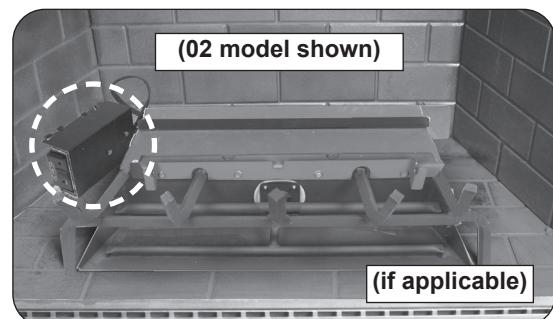
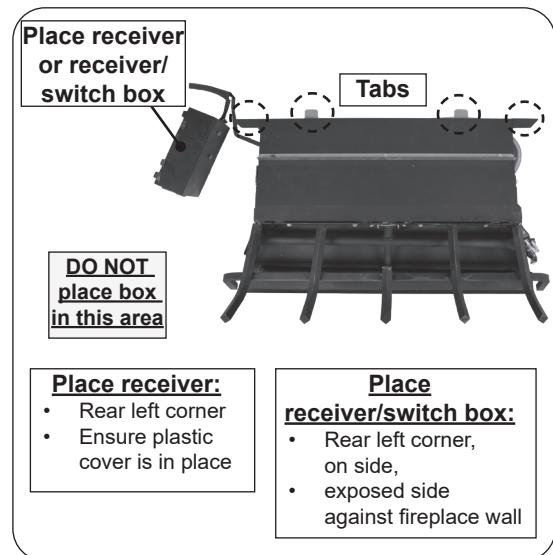

Fig. 15-2 Place receiver / switch box
Fig. 15-3 Proper receiver/box placement
3. Place the burner system in the fireplace. Center the burner from left to right in the fireplace. (Reference Fig. 15-2 for orientation.)
Note: The tabs located on the burner are for spacing and air circulation. See Fig. 15-3.
Place the plastic cover over the receiver. Then place on its side, at the rear left corner of the fireplace. Place as far from the burner system as possible. See Fig. 15-2 & Fig. 15-3.
Place on its side, at the rear left corner of the fireplace. It should rest with its bottom as near as possible and facing the fireplace wall. It must not be placed directly next to the burner pan area to avoid damage to the batteries (and remote receiver - 02 models). See Fig. 15-2 & Fig. 15-3.